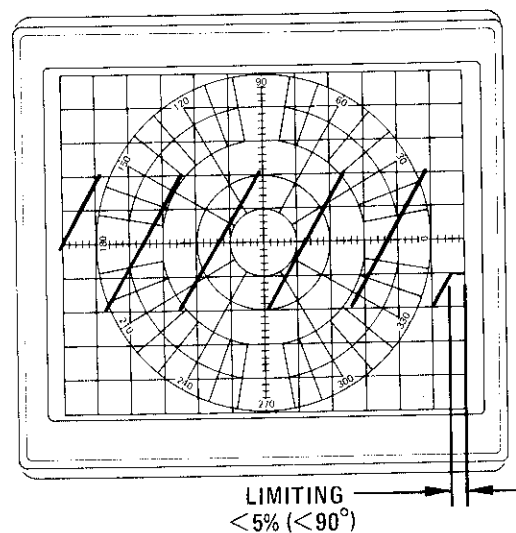

Figure A5-38. Waveform of Negative Offset Clamp
- z. The display should look like Figure A5-38. Increase the phase offset with LENGTH pushbutton to -177 and clamping action should be observed at right end of trace. If clamping does not occur between -175 and -177, adjust "E" control A3A9R26 for clamping action in this range.